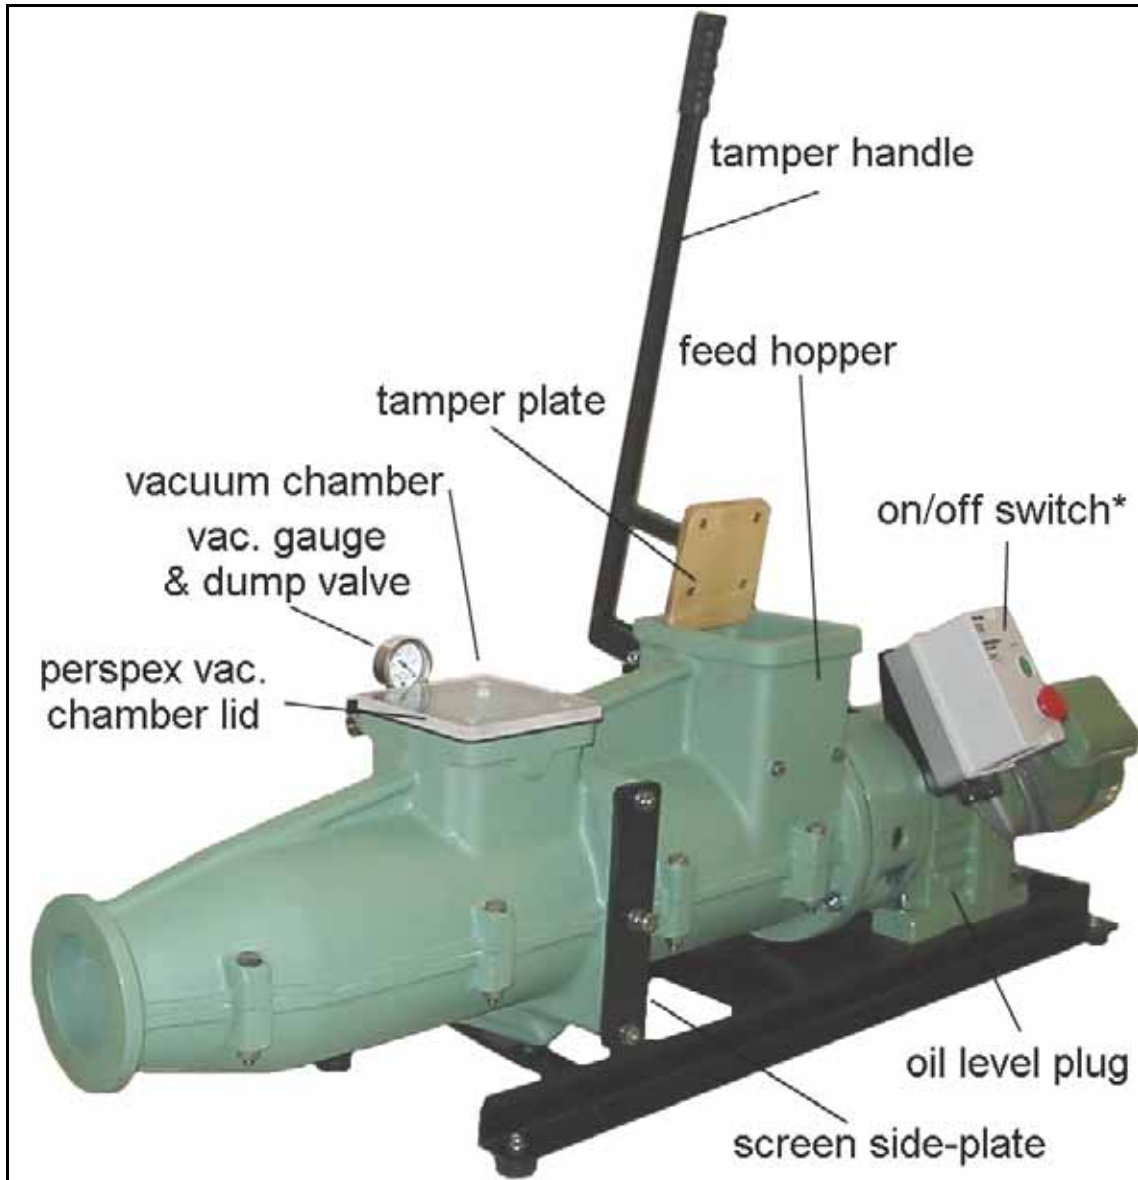

Figure 1: Components of the Venco 75mm pugmill (vacuum pump not shown)
1. Screw the vacuum gauge onto the brass fitting attached to the rear of the pugmill's vacuum chamber. To tighten use a 14mm (9/16") spanner on the square brass section adjacent to the thread –do not over tighten. A layer of Teflon tape (plumber's thread tape) on the thread may make it easier to align the gauge as in Fig. 1.
4. Fit one of the vacuum chamber gaskets onto the posts of clear plastic cover. Place the cover on the vacuum chamber. See Fig 1.
To drain the gearbox, remove the lowest plug adjacent to the gearbox foot. Use a 5mm hex key to remove the gearbox plugs. To fill the gearbox, firstly remove the oil level plug located approx. 50mm (2") up the side of the gearbox from the black base. See figure 1. Fill via either of the top two filling plugs until oil starts to run from the open level plug.